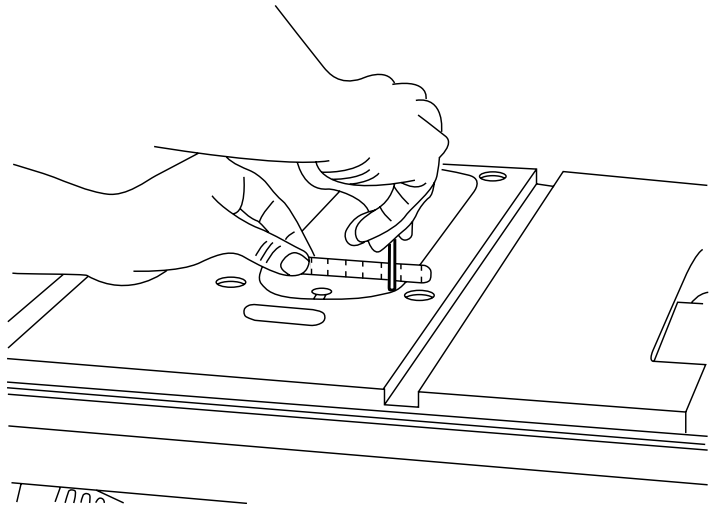

Fig. 2
- The zero clearance insert should be flush with the table top. Adjust the four set screws as needed. (See Fig 2.)
See Figure 2.